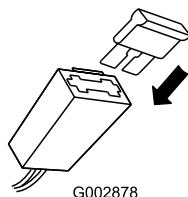

Figure 30
2. Insert the fuse into the fuse holder (Figure 30).